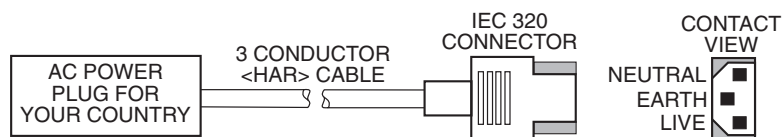

Figure 30. AC Power Cord Requirements
Since many areas of the world have specific power requirements, an AC Power Cord may not be included with your printer. Refer to Figure 30. A power cord must be provided by you that meets your local electrical requirements.
- The AC power plug and IEC320 connector must bear the certification mark of at least one of the known international safety organizations shown in Figure 30.